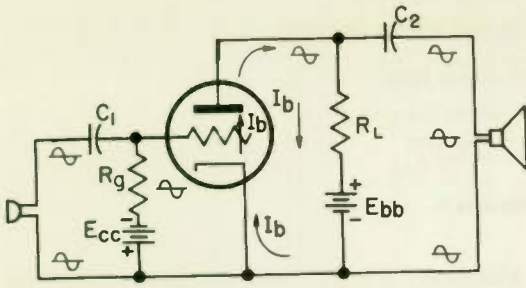
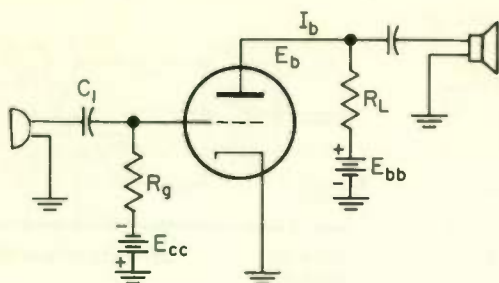

Fig. 39 Bias for the vacuum tube.
Fig. 44 Figure 39 redrawn with common points grounded.
sistor, the tube requires a bias voltage E_{cc} in Fig. 39, for the input terminal and another bias voltage E_{bb} for the output terminal. The output bias voltage E_{bb} is usually called the plate supply voltage. In addition, the tube also requires a heater voltage supply.
Refer to Fig. 39. Assume the microphone delivers a sinusoidal signal of 0.5 volt (max) and that E_{cc} is -2 volts.
In this lesson so far we have avoided the use of grounds in order to make the circuitry as clear as possible. In practice, amplifier circuits such as shown in this lesson would usually have at least one ground in order to improve performance as discussed above. A circuit involving several tubes would likely use a number of grounds in order to simplify the wiring. Figure 44 is Fig. 39 on page 37 redrawn to show the same circuit making the maximum use of grounds. The conductive chassis ties all the grounded points together in the same way that the common conductor (the bottom horizontal line) in Fig. 39 does. The circuits of Fig. 39 and Fig. 44 should be considered as identical.
Supply Voltage (or voltage source) . . . This usually refers to the source of voltage for operating the specific part of the circuit being discussed. For example the plate supply voltage in Fig. 44 is the battery E_{bb} , and the grid supply voltage is E_{cc} .
With vacuum tubes the approved practice today is to use the subscript b for letter symbols associated with the plate, and the subscript c for symbols associated with the grid. For example, the current drawn by the plate would be called I_b , as shown in Fig. 44. We double a subscript to indicate the supply voltage. Thus E_{bb} in Fig. 44 is the supply voltage, while E_b is the actual d-c voltage on the plate. The value E_b will be less than E_{bb} because of the voltage drop across the resistor R_L . Some variation in the use of symbols will be found. Plate current and plate voltage is sometimes called I_p and E_p , and the plate supply voltage terminals are often marked $B+$ and $B-$.
When discussing how a tube or transistor operates, the term load usually refers to all the impedance in the plate or collector circuit. Thus in Fig. 39 the load would consist of R_L and the loudspeaker impedance. The resistor R_L is the plate load resistor and the loudspeaker is the useful part of the total load.
- ? C (1) from plate through grid to cathode.
(2) out of the plate into the negative terminal of E_{bb} .
(3) out of the plate into the positive terminal of E_{bb} .
(4) out of the plate into the positive terminal of E_{ff} .
5. The purpose of C_1 in Fig. 44 is
- C (1) to keep the voltage of E_{cc} off the microphone.